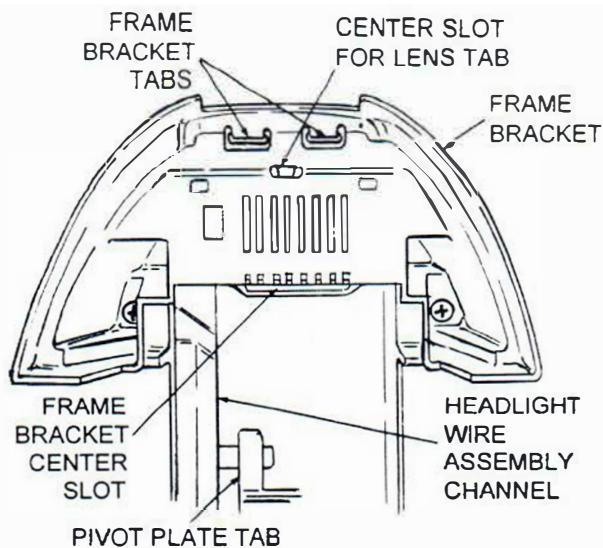

Figure 38. Headlight Bulb Replacement
- A. See Figure 38. Raise headlight cap to its full extent.